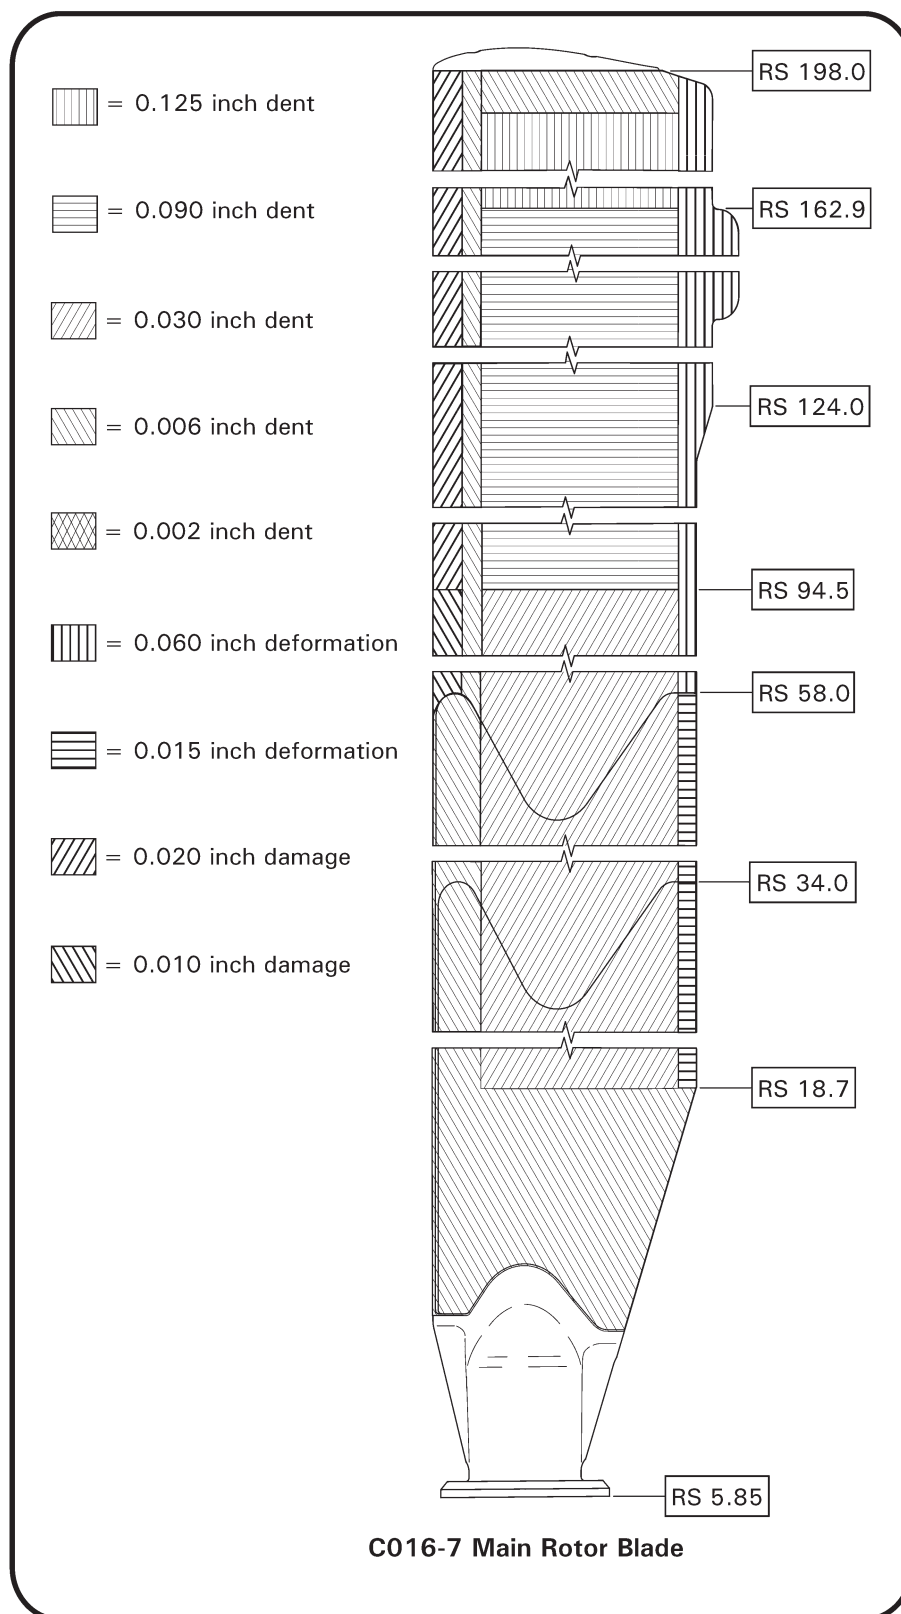

FIGURE 28-14 DENTS AND LOCAL DEFORMATIONS
1. Refer to Figure 28-14. Damage may not exceed the following limits: